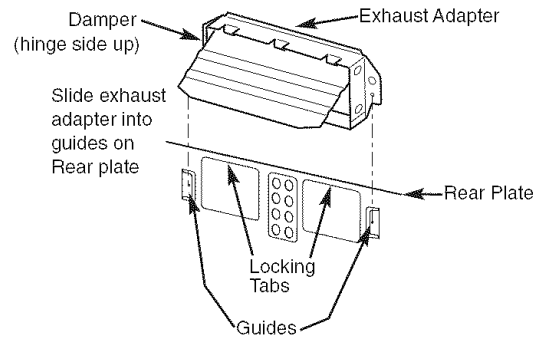

Figure 30
- Attach the exhaust adapter to the rear plate. See Figure 30. Push in securely until it is past the top locking tabs and in the lower locking tabs. Take care to assure the damper hinge is installed so that it is at the top and that the damper swings freely.
- Return to step 5, item 3 to continue. After completing the installation of the mounting plate, again check the rear damper for free movement to assure it will operate properly.